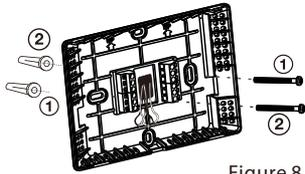

Figure 8
Fasten the base loosely to the wall as shown in Figure 8, using two mounting screws. Place a level against the bottom of the base and adjust until level, then tighten the screws. (Leveling is for appearance only, and will not affect thermostat operation.)
8. Fasten the base loosely to the wall as shown in Figure 8, using two mounting screws. Place a level against the bottom of the base and adjust until level, then tighten the screws. (Leveling is for appearance only, and will not affect thermostat operation.)